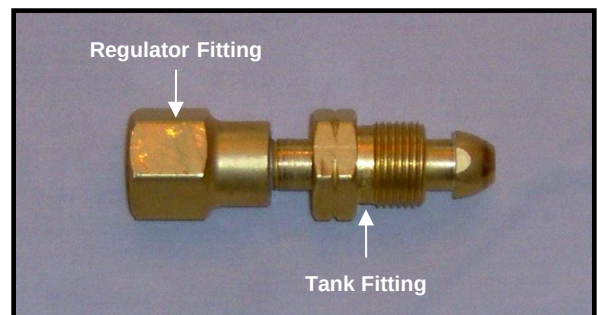

Figure 1
Important Note: Compressed Air Cylinders are supplied with a Female left-hand thread Tank fitting (CGA-590). Pressure Regulator BEREG02 supplied in the Blowing Head Equipment Kit has a Male right-hand threaded Nut (CGA-580). A CGA-590 Industrial Air Cylinder-to-CGA-580 Nitrogen Regulator Cylinder Adapter is required to connect the Pressure Regulators to the Tank fitting. One (1) Cylinder Adapter is required for each Pressure Regulator used. **See Fig. 1 and Fig. 2**